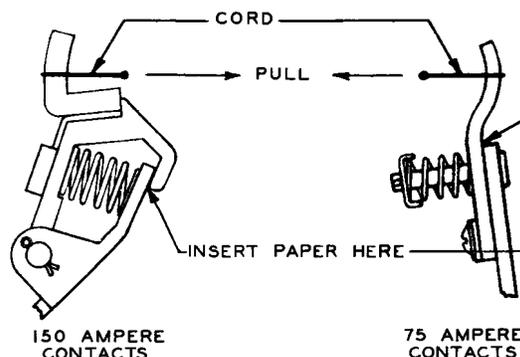

Fig. 12 - Measurement of Initial Contact Pressure
(1) To check the *initial pressure* of NO contacts of a contactor with the contactor in the released position, attach a short loop of cord around the movable contact and insert a small piece of KS-7187 bond paper in the contact assembly between the contact finger and support. See Fig. 12. Hook the gauge in the loop and pull away from the stationary contact. Observe the indication of the gauge at the instant the paper can be moved.
(2) To check the *final pressure* of NO contacts of a contactor, proceed as above with the contactor operated and the paper inserted between the contact surfaces. The contactor may be operated manually or electrically by means of a temporary connection to the operating coil. See that the contacts are not connected to the service voltage while being handled.
(3) To check initial and final pressure of NC contacts, proceed as above except that the contactor should be operated when checking initial pressure and released when checking final pressure.